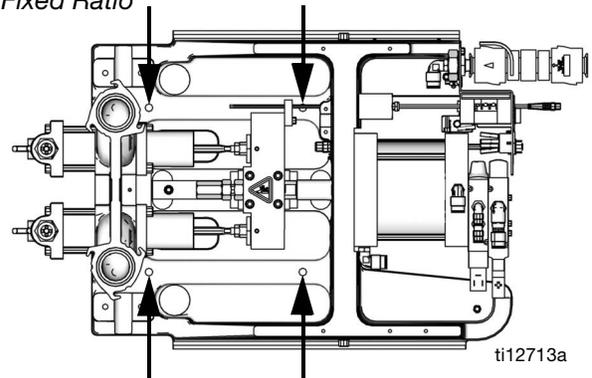

FIG. 4: Mounting Holes
3. Remove the shield locking screws (110) on both sides then remove the protective shield.
4. Attach the frame to the selected location by installing fasteners (not provided with unit) through the four mounting holes. See FIG. 4.